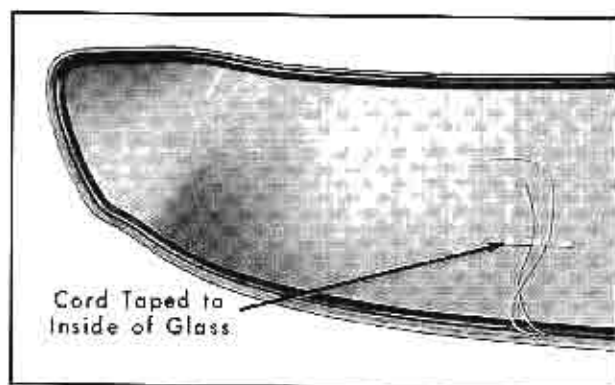

Fig. 3-11 Installing Cord on Rubber Channel
6. Insert a strong cord into pinchweld cavity of rubber channel, completely around windshield with loose ends taped to inside of glass at bottom center. Fig. 3-11.